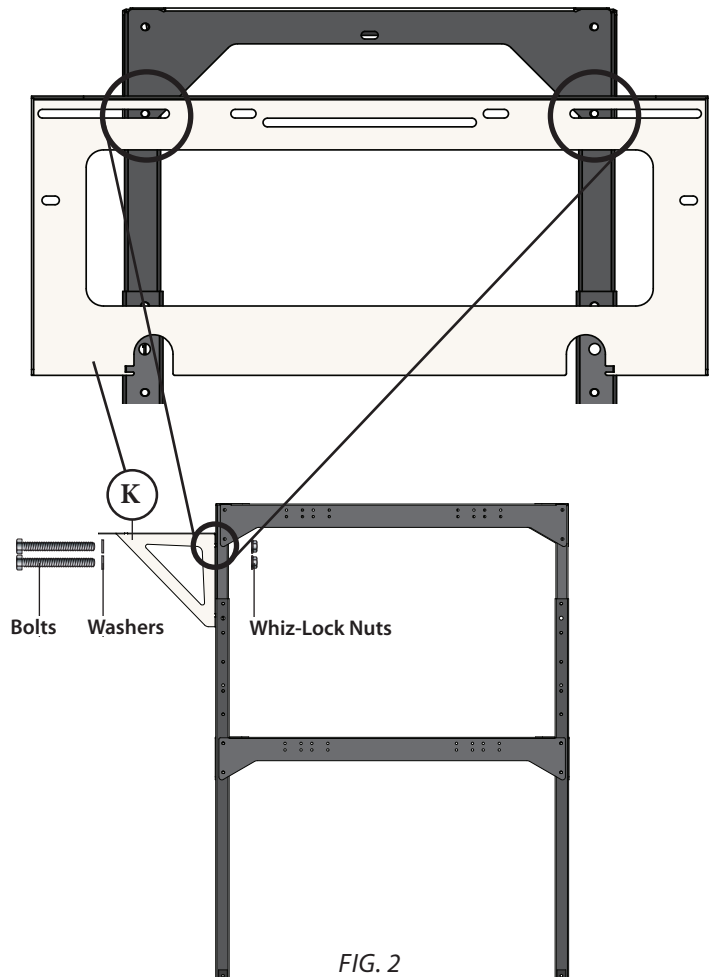

FIG. 2
Attach the Dual Filter Plate (K) to the stand using the stand's pre-installed hardware as shown in [FIG. 2].